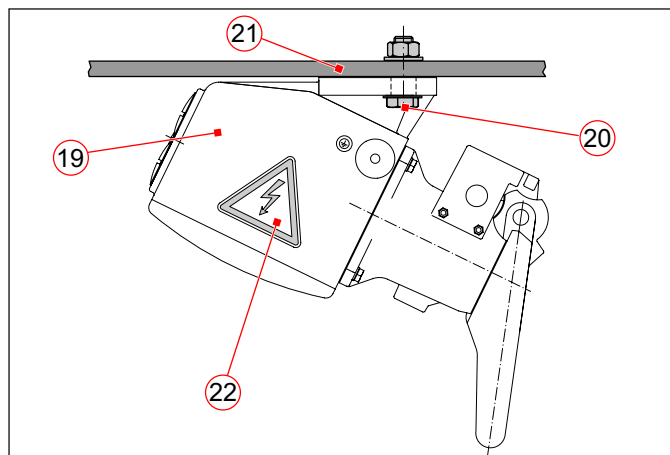

Fig. 7: Install the coupling receptacle (19) with screws and screw locking devices (20) on the mounting frame (21) and glue on warning plate (22)
▶ Tighten the receptacle (Fig. 7/19) with 2 hexagon screws M20 incl. nuts and appropriate screw locking devices (20) to the prepared mounting frame (21). The torque for the fixing screws has to be determined by the manufacturer of the vehicle according the constructional conditions.
▶ Then, attach the included warning plate (22).